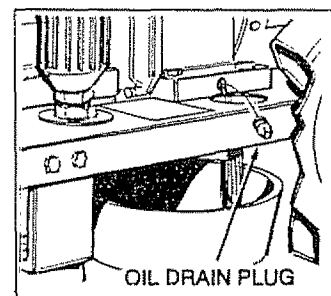

FIG. 14
- Clean area around oil drain plug, remove plug and drain oil completely into a suitable container (Fig. 14).